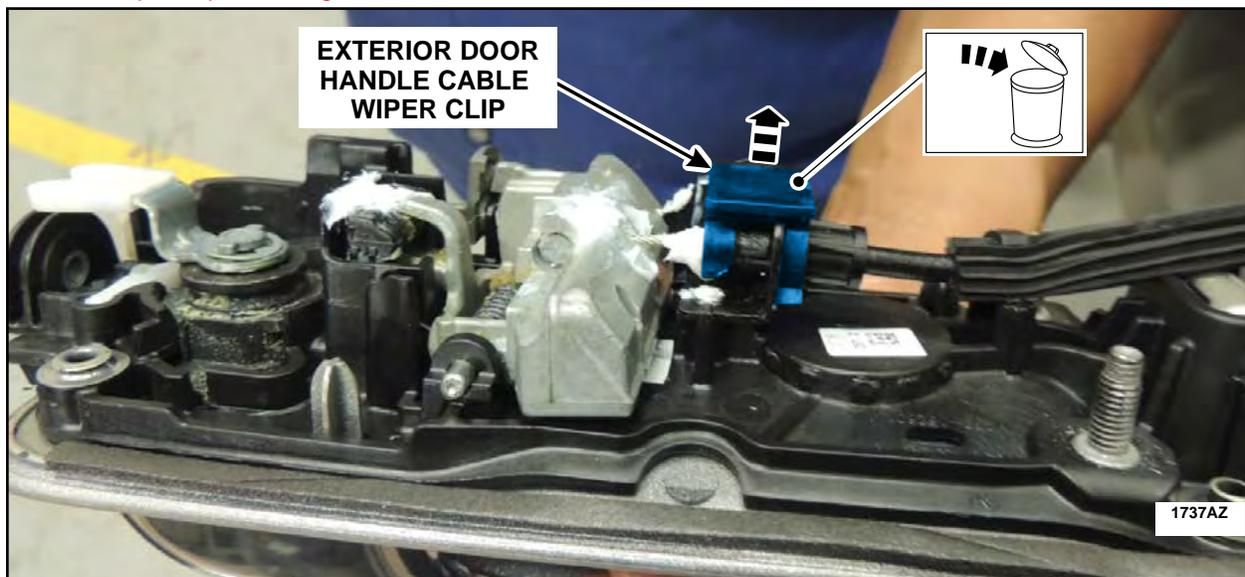

FIGURE 14
2. *If a cable wiper clip is present on the exterior door handle cable end, remove and discard the cable wiper clip. See Figure 14.*